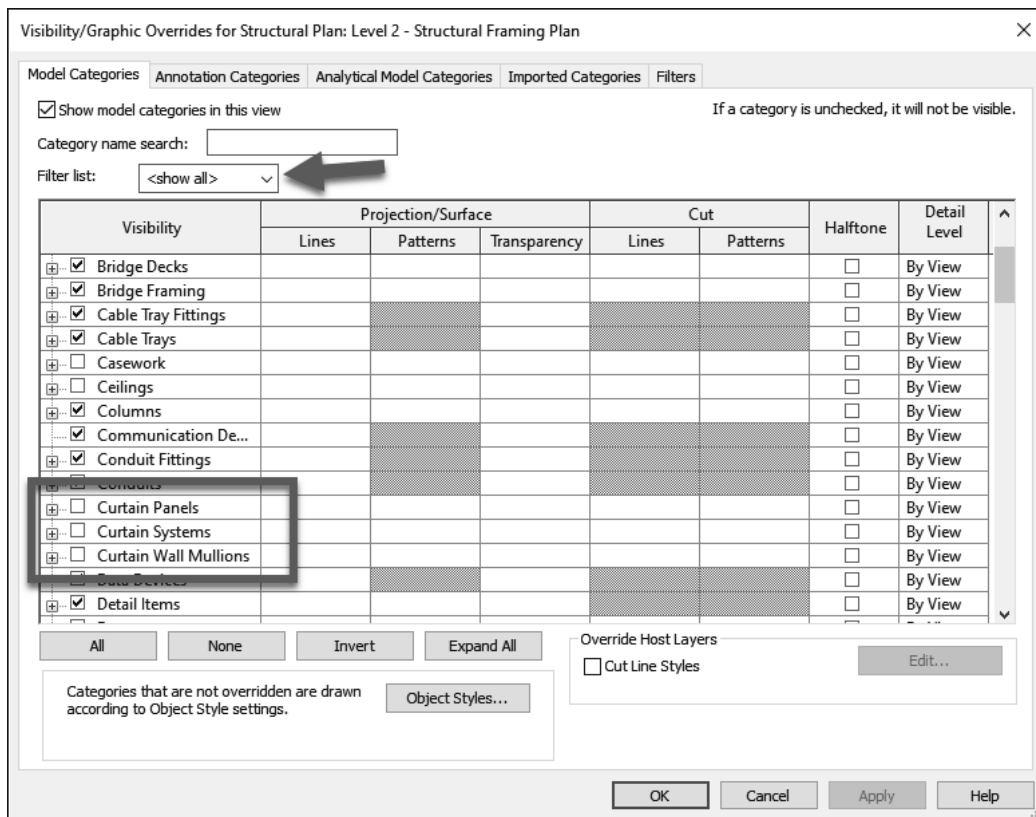

FIGURE 8-3.11 Visibility dialog; turning off the curtain walls
23. Set *Filter list* to **Show all**, if not already set. (See Figure 8-3.11.)
24. Uncheck the three “**Curtain**” categories, if not already turned off. (Figure 8-3.11.)